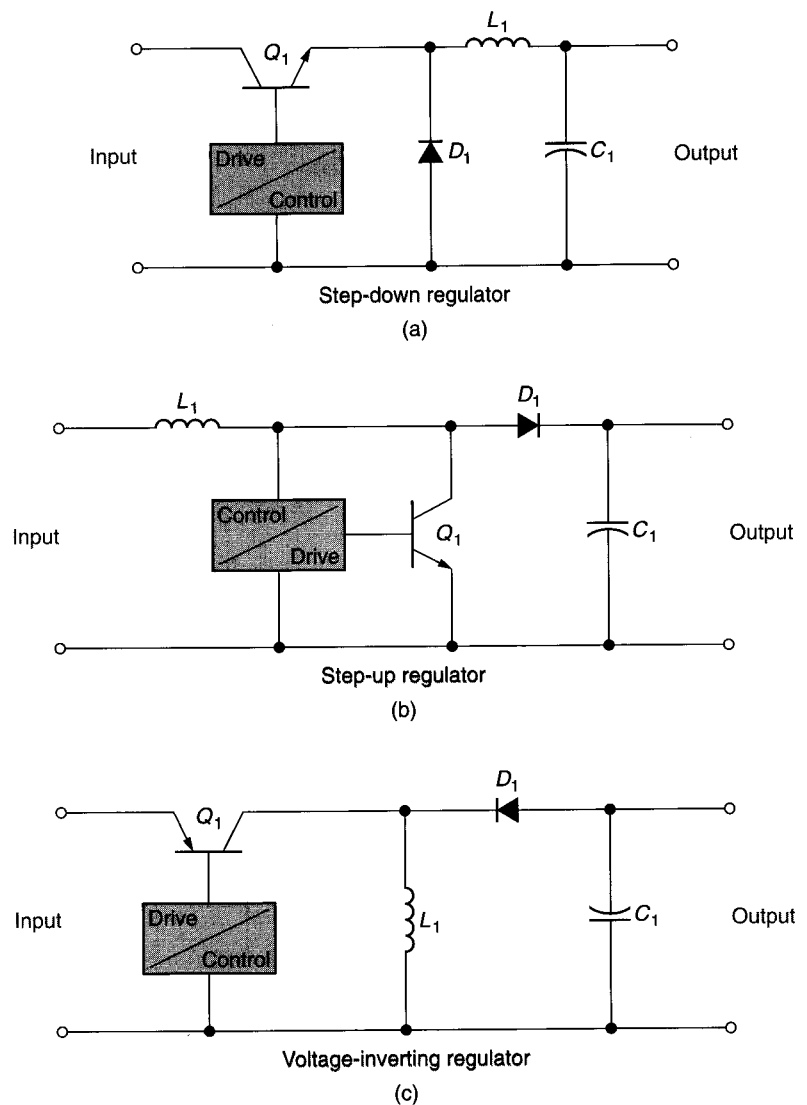

FIGURE 21.22 Basic switching regulator configurations.
Several points should be made regarding the configurations represented in Figure 21.22. First, the *control* and *switch driver* circuits have been lumped into a single block for simplicity. While the control and switch driver circuits may vary from one switching regulator to another, you should be able to determine the type of regulator you're dealing with by noting the position of the power switch as follows:
6. List the circuit recognition features for each of the switching regulators shown in Figure 21.22.